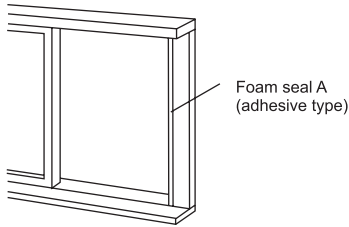

Fig.14
1. Cut the foam seal (adhesive type) to the proper length and attach it to the window frame. See Fig.14.